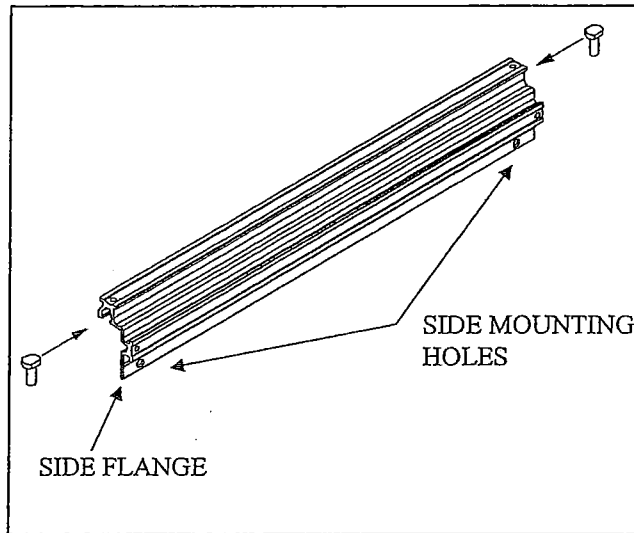

Figure 3A
9. Starting with the driver's side, slide 2 T-Bolts into the channel slot of a Base Plate. (See Fig 3A) Adjust the bolts into position above the drilled holes in the utility box. Place the Base Plate onto the utility box as you insert the bolts into the drilled holes. Check that the Base Plate is flush with the forward edge of the box, and that the inside corner of the Base Plate fits snugly against the inside edge of the box.